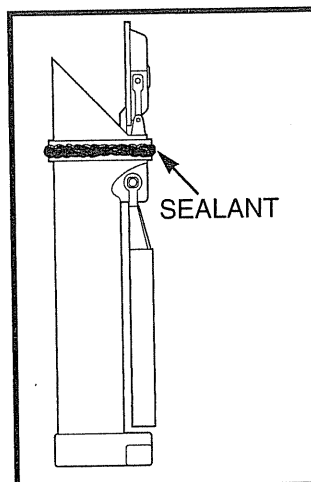

FIGURE 8A
Remove the yellow warning tag attached to the valve. Prepare sealant by mixing $1/3$ of each tube together until color is uniform. Generously apply sealant to the outside diameter of the valve. Make sure coverage is completely around the tube as shown in Figure 8A. Locate the upper drop tube onto the valve body and push the tube past the sealant until it seats on the machined shoulder. Make sure all (3) holes are in perfect alignment with the counter-sunk holes on the valve body.